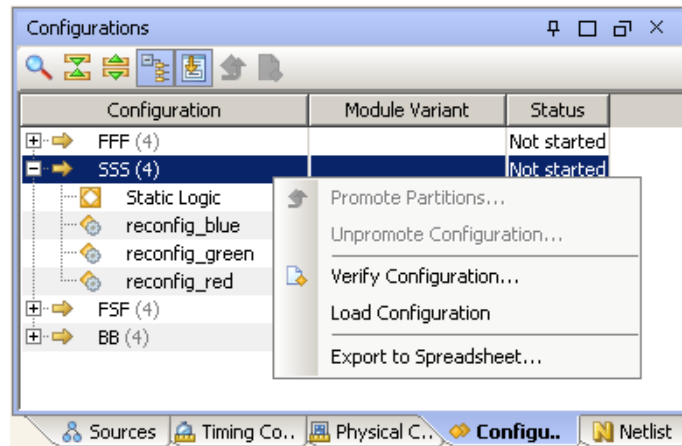

Figure 4-24: Loading an Existing Configuration
1. Use the **Load Configuration** command in the popup menu in the Configurations pane to load the netlist for analysis as shown in Figure 4-24.